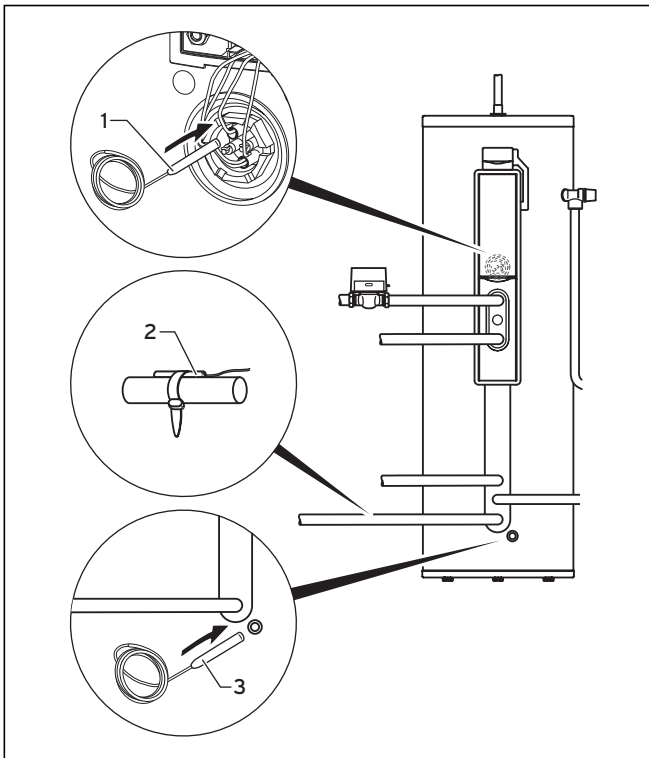

Fig. 5.26 Installation of the VR 10 temperature sensor
- Installation of two VR 10 temperature sensors in the solar cylinder (see Fig. 5.26)
- Attachment of the solar gain sensor to the solar circuit return (see Fig. 5.26)
- Push one of the VR 10 temperature sensors (1) supplied with the solar control in an immersion sleeve where there is still room, as illustrated in Fig. 5.26.
- Push a VR 10 temperature sensor (3) in the immersion sleeve for the bottom cylinder area.
- Attach the temperature sensor for the gain (2) to the return pipe of the solar circuit nearby the solar cylinder.